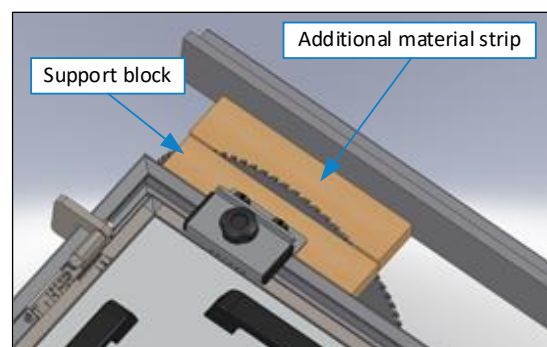

Figure 3: Adjusting the DSG-A (3)
6. Carefully push the fence with the support block up to the saw blade (refer to ⇒ Figure 3).